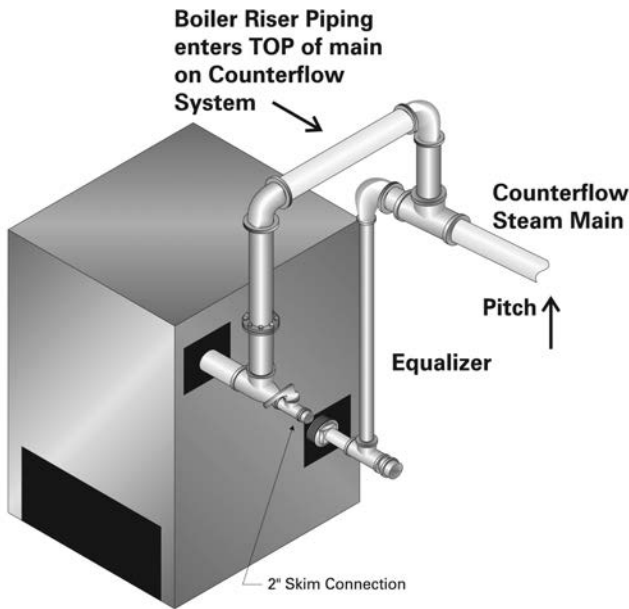

Figure 5.3: Supply and Return Piping – Counterflow Gravity Systems
6. Counterflow Gravity systems require the boiler steam line to enter the top of the steam main. See Figure 5.3 for this special case.